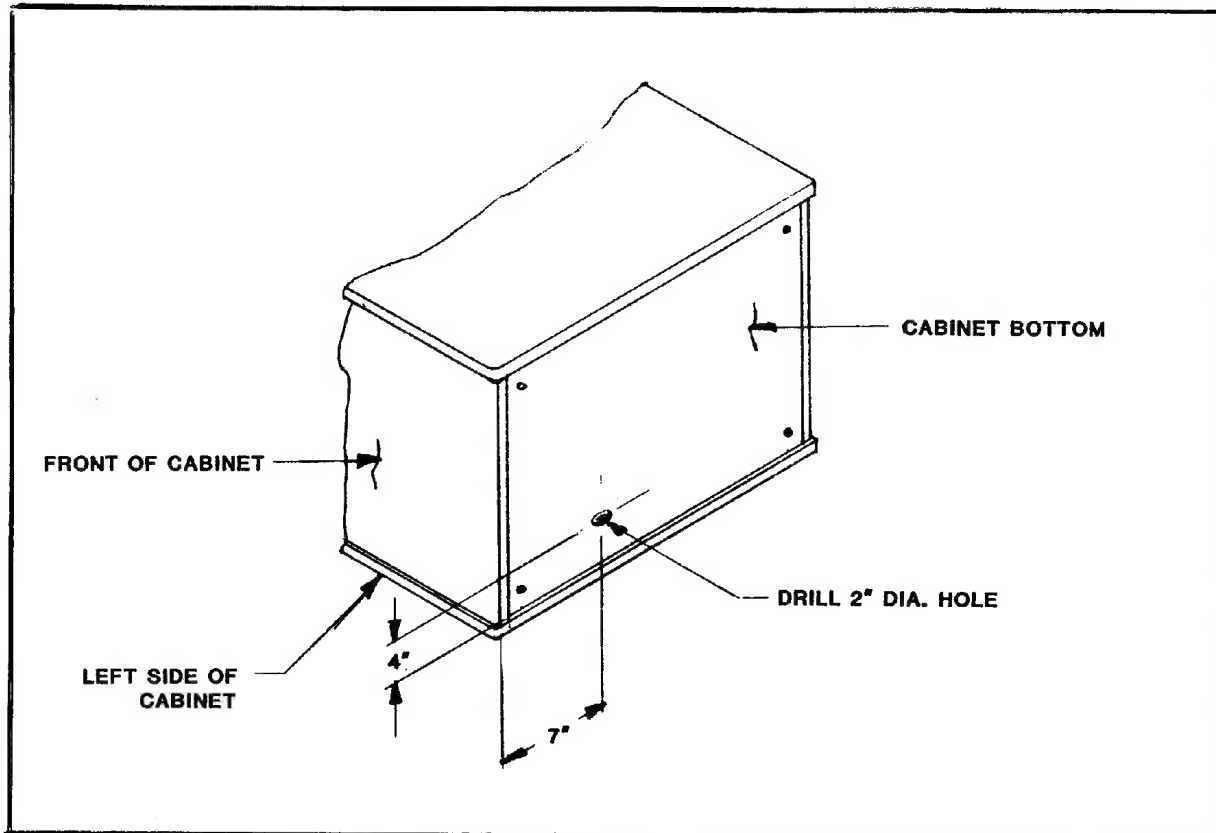

FIGURE 1
1. For SAC 1A, SAC 1B, & SAC-MAN game cabinets: Remove rear door and lay cabinet on its side. Drill 2" hole in bottom of cabinet as shown in Figure 1.